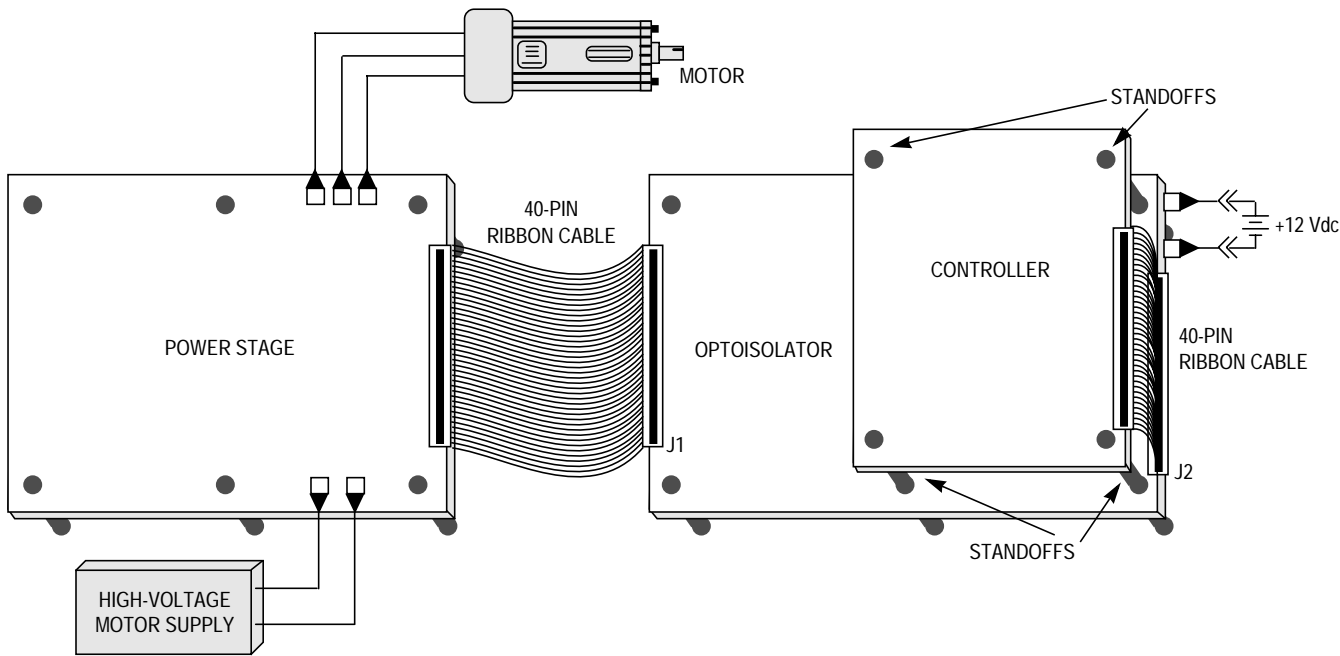

Figure 1-3. Optoisolation Board Setup
Setup and connections for the optoisolation board are straightforward. The optoisolation board connects to a Motorola embedded motion control series high-voltage power stage via a 40-pin ribbon cable with a Motorola embedded motion control series control board to form a mother/daughter board arrangement. **Figure 1-3** depicts a completed setup.
1. Mount four standoffs to the optoisolation board at the locations indicated in **Figure 1-3**. Standoffs, screws, and washers are included in the ECOPT kit. This step and step 3 are optional when making connections with DSP control boards such as the DSP56F805EVM. The DSP boards may be placed flat on a bench, next to the optoisolation board.